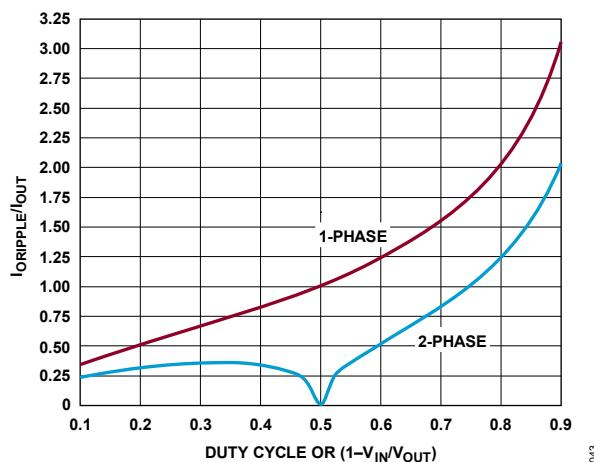

Figure 43. Normalized Output Capacitor Ripple Current (RMS) for a Boost Converter
The ripple current requirements for the output capacitor shown in Equation 14 can be reduced in a 2-phase configuration, as shown in *Figure 43*. *Figure 43* illustrates the normalized output capacitor ripple current as a function of the duty cycle in a 2-phase configuration compared to a single-phase configuration. To choose a ripple current rating for the output capacitor in a 2-phase configuration, use the following steps:
2. As shown in *Figure 43*, choose the worst-case high normalized ripple current as a percentage of the maximum load current.